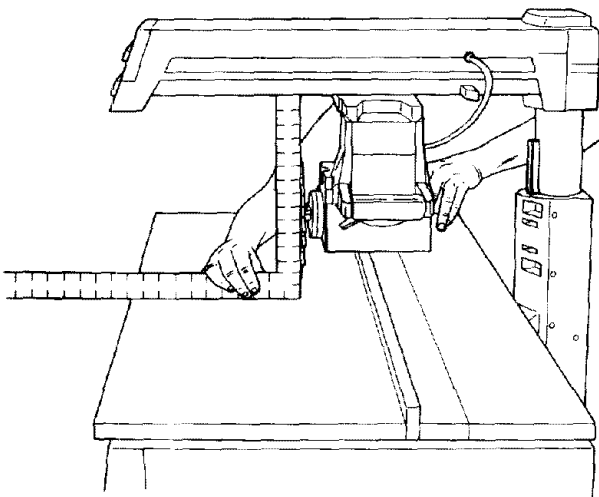

Fig. 88
3. Place the long edge of the framing square on the *table* and the short edge against the *blade* alongside the *arbor shaft*. Make sure the square is against the surface of the *blade* and not on the set of a tooth. (Figure 88)